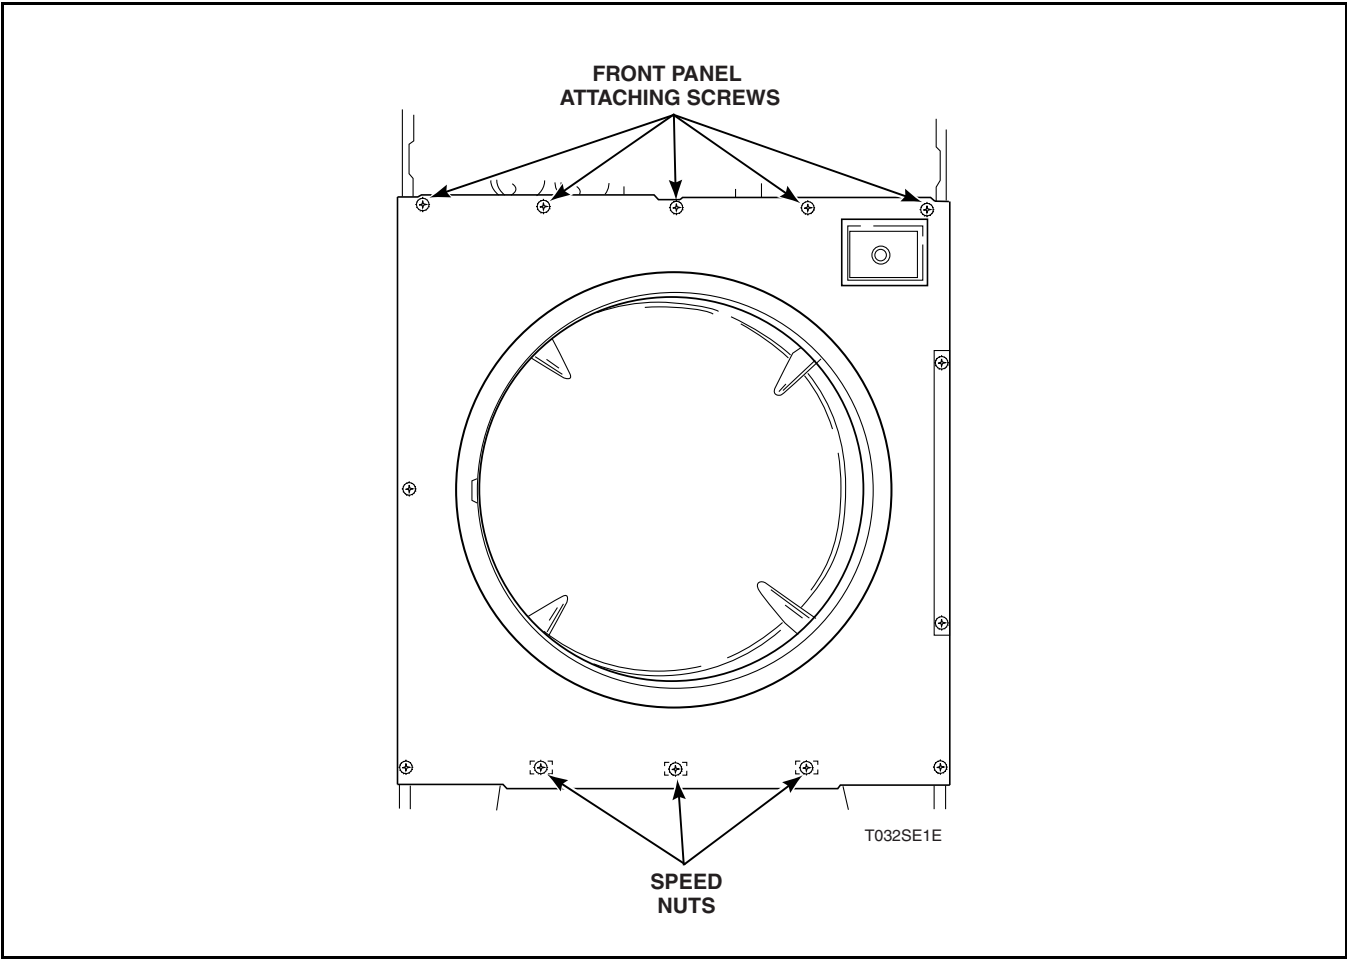

Figure 34
- Support front panel and remove screws (and three speed nuts — newer models only) holding front panel to tumbler cabinet. Refer to *Figure 34*.
- e. Support front panel and remove screws (and three speed nuts — newer models only) holding front panel to tumbler cabinet. Refer to *Figure 34*.